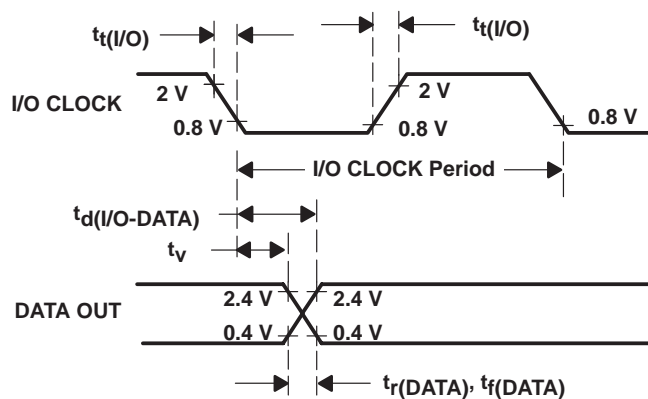

Figure 6. I/O CLOCK and DATA OUT Voltage Waveforms
10. I/O CLOCK period = 1/(I/O CLOCK frequency) (see Figure 6)